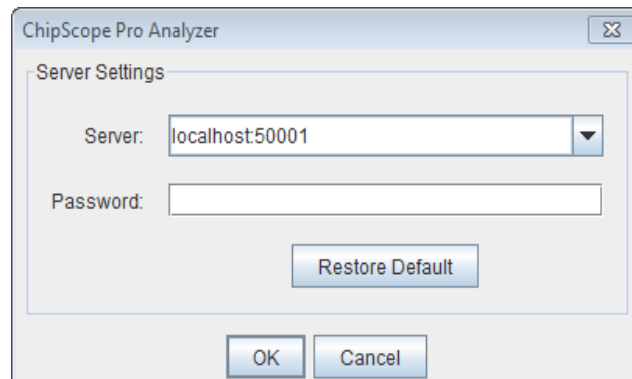

Figure 5-22: Changing the ChipScope Pro Analyzer Server Host Settings
5. In the ChipScope Pro Analyzer tool, select **JTAG Chain > Server Host Setting**. Change the server to **localhost:50001** (see Figure 5-22)